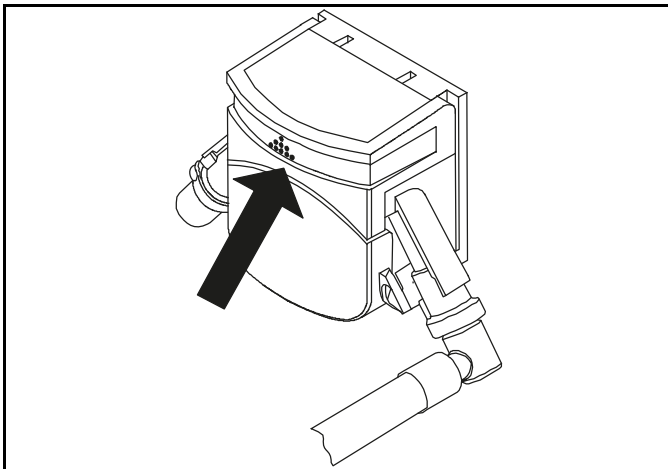

Figure 6-77
13. Open the pump by pushing up on the hinged cover. (See the arrow in Figure 6-77 on page 6-23)